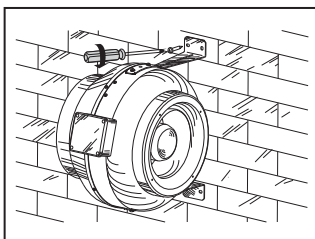

Fig. 11
5. Fix the fan with the screws, fig. 11.